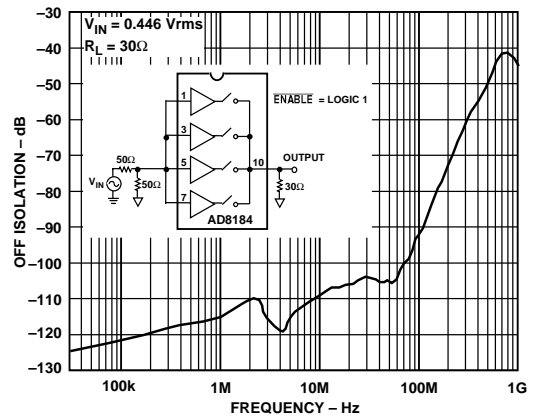

Figure 13. "OFF" Isolation vs. Frequency
- ⁷Multiplexer is disabled (i.e., $\overline{ENABLE} = \text{logic 1}$) and all inputs are driven simultaneously with $V_{IN} = 0.446$ V rms. Output is monitored at $f = 5$ and 30 MHz. $R_L = 30$ Ω to simulate R_{ON} of one enabled multiplexer within a system (see Figure 13). In this mode the output impedance is very high (typ 10 M Ω), and the signal couples across the package; the load impedance determines the crosstalk.